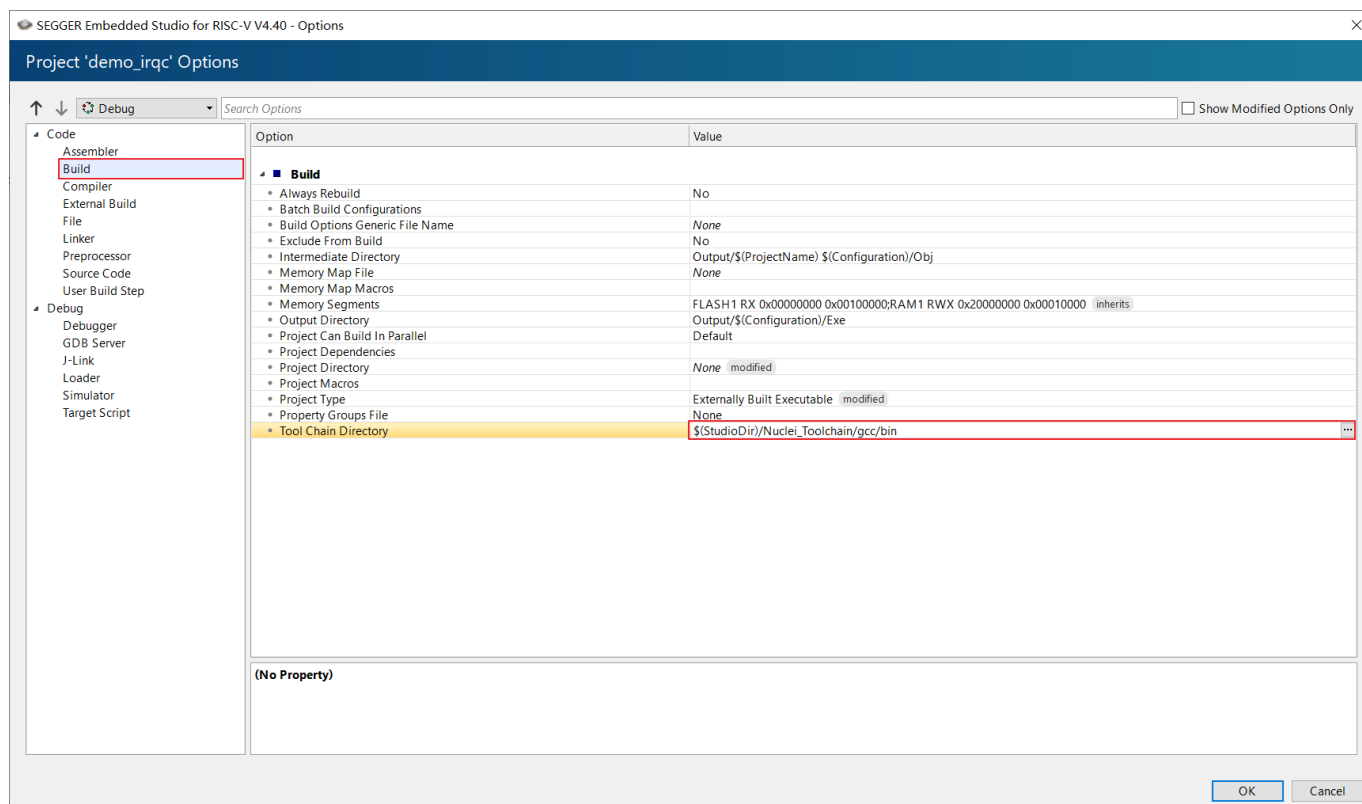

Figure 2-15 Change Tool Chain Directory
- Select "Project --> Options" in the menu bar again to open the project settings pop-up window. Modify the "Tool Chain Directory" under the "Build" column to "\$\$(StudioDir)/Nuclei_Toolchain/gcc/bin", as shown in Figure 2-15.